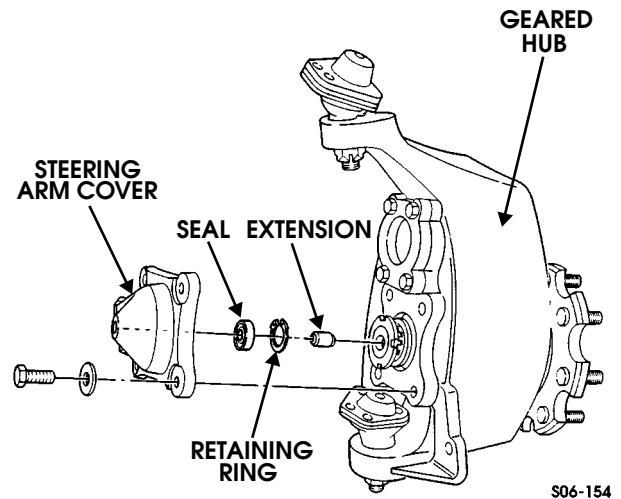

Figure 6-83: Spindle Extension and Seal
2. Remove four bolts, washers, and steering arm cover from geared hub (Figure 6-83).
1. Apply sealant to seal and install seal in steering arm cover (Figure 6-83).